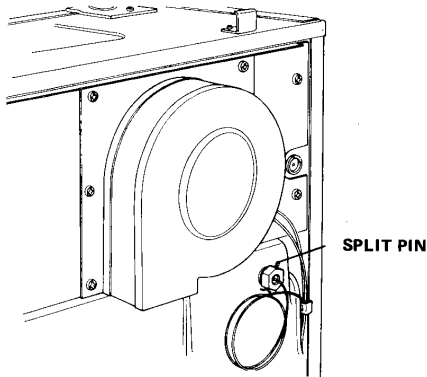

Fig. 21A FULLY PUMPED POSITION
1. Remove split pin retaining overheat thermostat (Fig. 21A) and pull bulb from pocket along with spacer, discard spacer and split-pin.